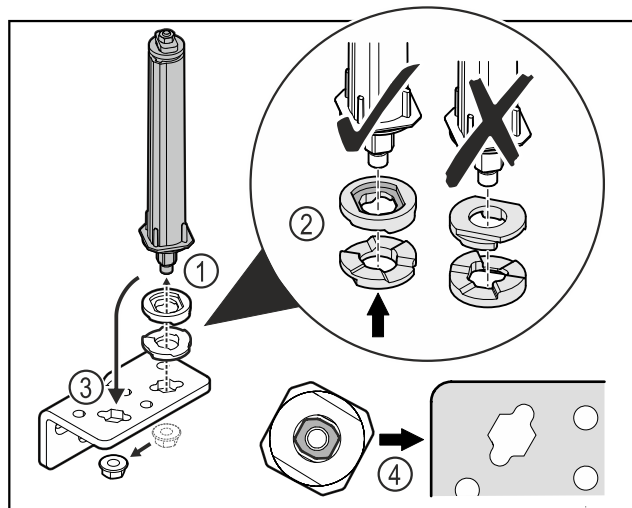

Fig. 23
- Loosen the nut and remove the door closing system Fig. 23 (1).
- Observe the correct alignment of the height adjustment washers Fig. 23 (2).
- Put the door closing system in the hinge and fix in place with the nut Fig. 23 (3).
- Observe the correct alignment of the door closing system when doing so Fig. 23 (4).